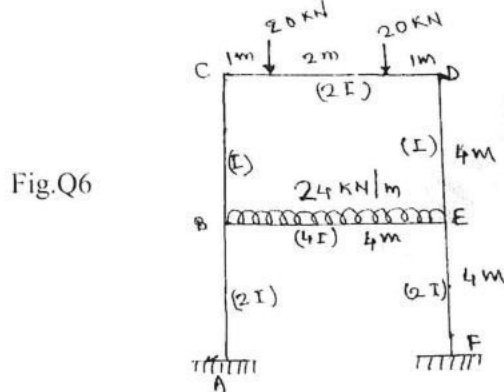

Fig.Q6
- 6 Analyze the frame shown in Fig.Q6 by Kani's method. (Make use of symmetry)